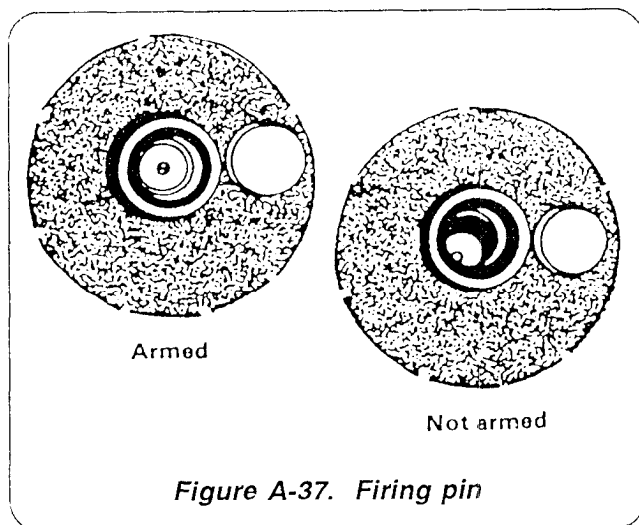

Figure A-37. Firing pin
2. Test the position of the firing pin (Figure A-37).